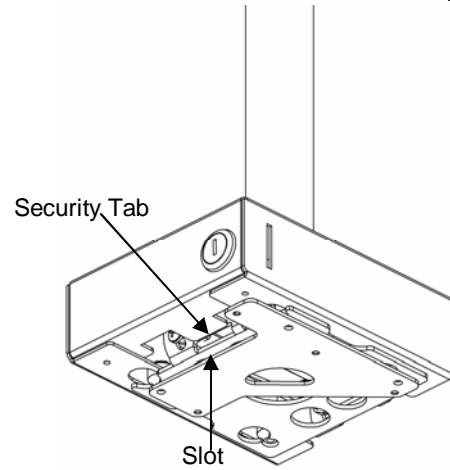
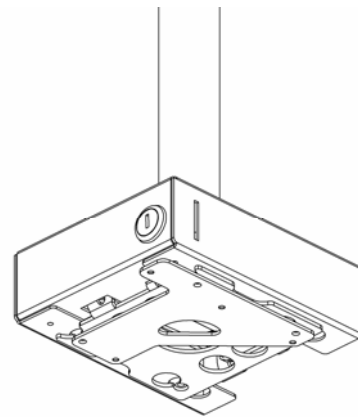

Figure 5. Security Tab Into Slot
Figure 6. Security Tab Correctly Installed
4. Slide security tab of Main Bracket (10) into slot on side of projector mount (see Figure 5 and Figure 6).